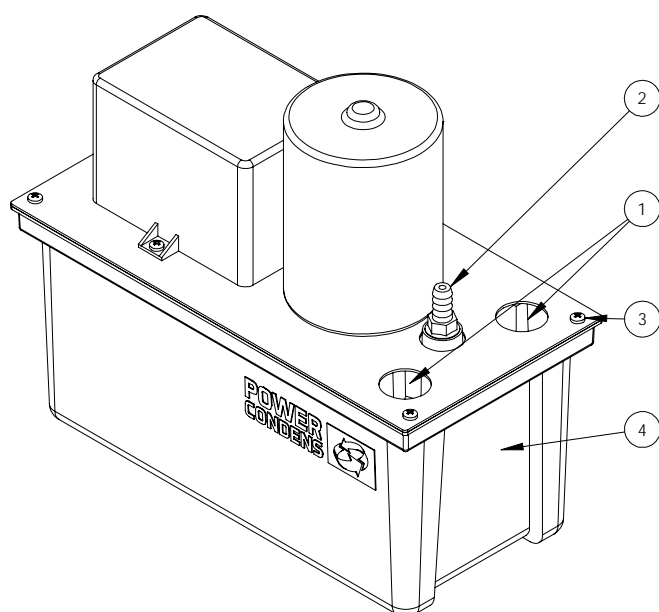

Figure 1: Condensate pump KP 150 / KP 250
- Loosen the screws (Figure 1, item 3)
- The 28.5mm diameter (Figure 1, item 1) condensate inlet opening is in the condensate collection reservoir. If necessary, a second inlet (Figure 1, item 1) can be used. A hose with a diameter of 10mm is provided for connecting the condensate discharge pipe (Figure 1, item 2).
- Connect the condensate inlet pipe to the inlet opening (Figure 1, item 1).
- Connect the condensate discharge pipe to the pump discharge (Figure 1, item 2).
- Remove the condensate collection reservoir (Figure 1, item 4) by loosening the screws and clean with a 5% bleach base solution.
- Unscrew out the non-return valve (Figure 1, item 2)